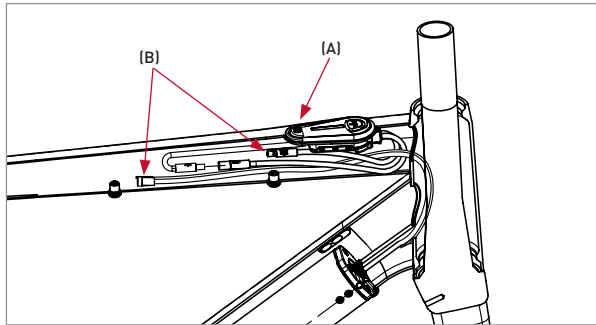

Figure 12
6. Use the 2mm hex key to remove the screw from the Control Unit (A) (Figure 12).
7. Remove the Control Unit (A) from the top tube to expose the battery cable connection, then disconnect the battery cable plugs (B) (Figure 12). If your ebike comes with a remote system controller, the cable plug can remain plugged into the second plug of the control unit.